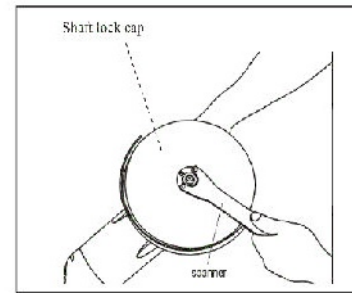

Fig4
2. To tighten the outer flange, Press the shaft lock firmly so that the spindle cannot revolve, then use the lock nut wrench and securely tighten clockwise. (Fig 4)